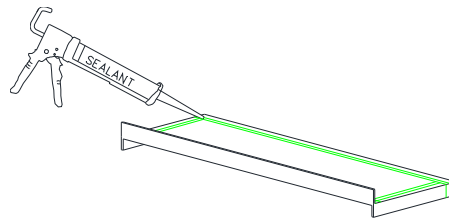

Figure 3:
- With bottom side of sillpan up, apply a 3/8" bead of compatible sealant 1/2" in from interior leg. Sealant bead to run across the bottom as well as up each vertical leg of the sillpan. Also apply sealant beads near the sides and across the front (Figure 3).